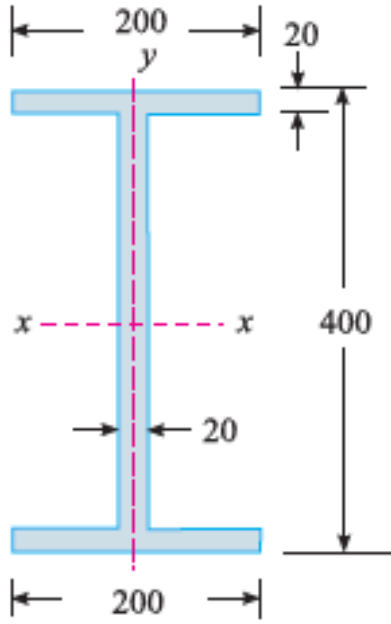

Figure Q5b
- b) Figure Q5b is an I joist 400 mm by 200 mm by 20 mm and 6 m long used as a strut with both ends fixed. What is the Euler's crippling load for the column? Take Young's modulus for the joist as 200 GPa.